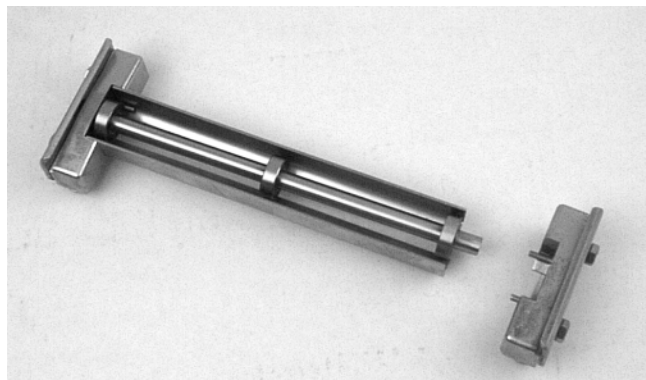

Figure 14
1. Typical components (Figure 14)